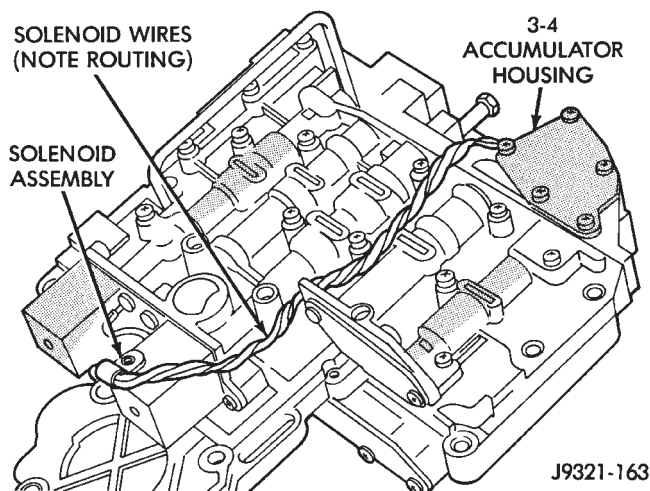

Fig. 125 Solenoid Wire Routing—46RH
(8) Verify that solenoid wires are properly routed (Fig. 125). Solenoid wires must be clear of rear band lever, manual lever and park rod.